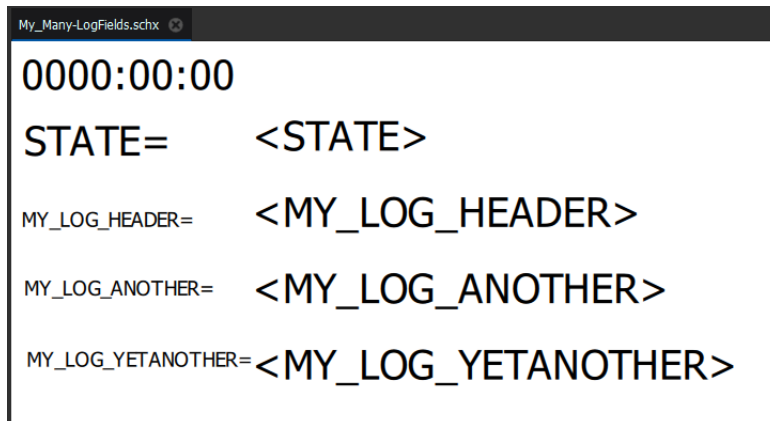

Fig. 9-6: My_Many-LogFields.schx
- 3 Add more **Label** widgets, and configure them as shown in Figure 9-6.